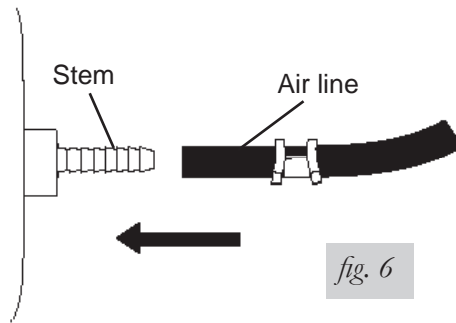

fig. 6
6. Push the air line onto the stem, covering all the barbs (fig. 6). With the pliers, slide the air line clamp upward until it fully covers the barbed section.
5. Push the air line onto the stem, covering all the barbed section (see fig. 6). With pliers slide the air line clamp forward until it fully covers barbed section.